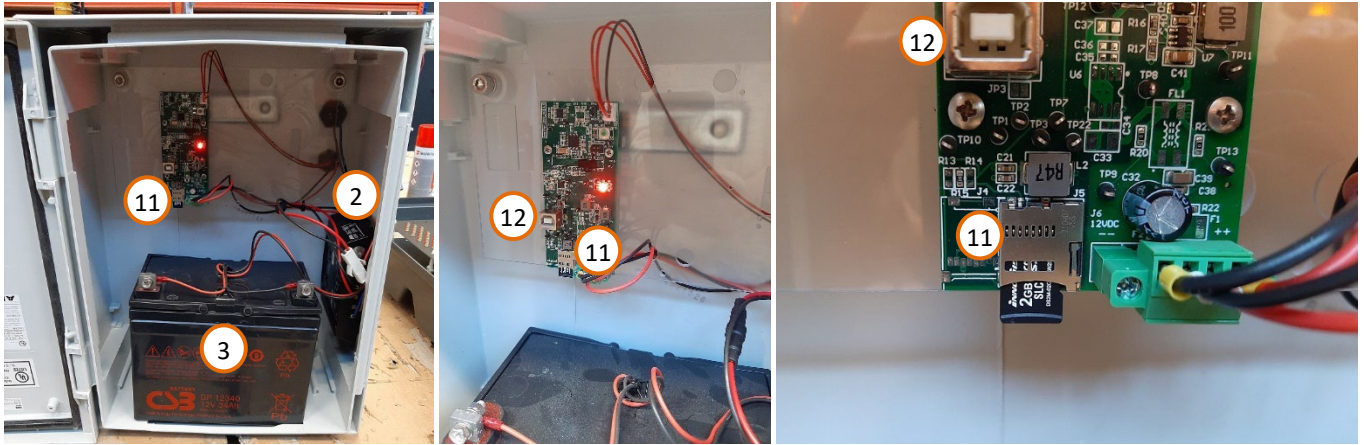

Figure 13: cabinet with SD card reader
1. Install the cabinet at the foot of the pole, under the TMA-3B3. Insert collars with the right diameter in the clamps (10) on the backside of the cabinet.
2. Insert a SIM card in the slot (Figure 12, p. 9, mark 7) or a SD card in the reader (Figure 13, mark 11).
- For the cabinets equipped with an optional SD card reader, the configuration is made through de USB-B connector (Figure 13, item 12).